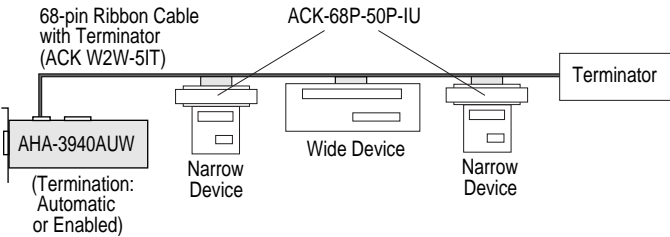

Figure A-14. Connecting Narrow and Wide Internal Devices (cable terminated)
- If the last internal device must be a narrow device, then an ACK-68P-50P-IU can be used but only with a ribbon cable that has a built-in terminator such as an ACK-W2W-IT (see Figure A-14).